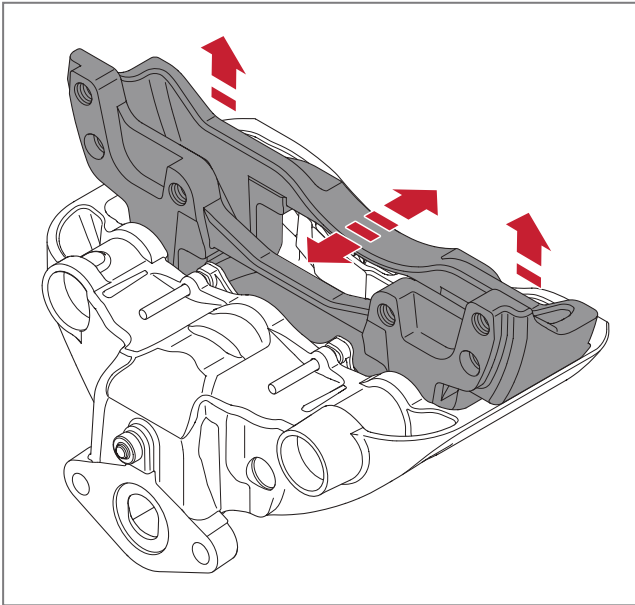

Fig. 58 - Removing the carrier
4. Remove the carrier from the brake calliper by gently rocking the carrier to release it from the guide pins and bellows. Once released, press the guide pins back enough to be able to lift out the carrier, see ► Fig. 58.